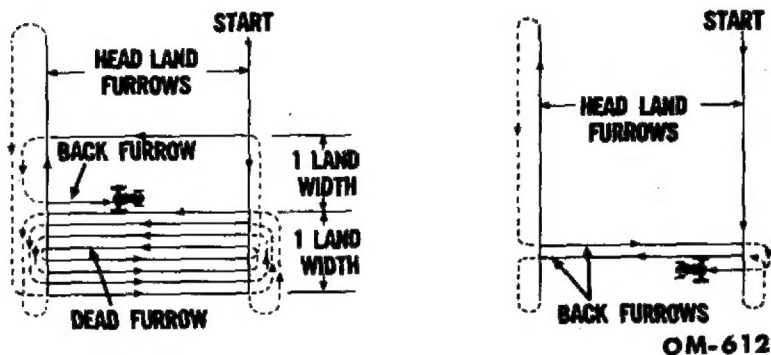

Fig. 79—Two Methods of Opening a Field to be Plowed by Lands
a. **Plowing by Lands.** Plowing by lands is a method whereby the field is plowed in sections or strips. The following operations are performed when plowing by lands. Fig. 79 shows a procedure for laying out the field.